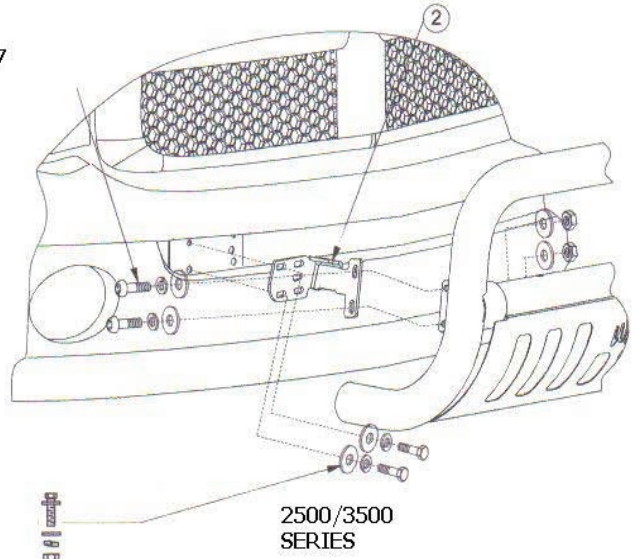

FIGURE 3-INSTALLATION VIEW OF PASSENGER SIDE, DRIVER SIDE OPPOSITE
1. Determine passenger and driver brackets. See figure 3. Remove tow hooks. Keep fasteners for reinstallation.
**Note:** 1500 models use two inside slots. 2500 / 3500 models use outside most slots. Vehicles with tow hooks use factory fasteners to attach brackets, otherwise use M10 fasteners. Leave loose. See figure 3.
4. Attach bull bar to brackets using M10 fasteners as shown. Make sure mount tabs on hoop are inside brackets. Leave loose. See figure 3.